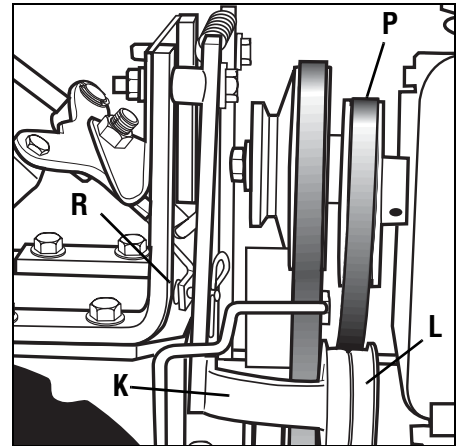

Figure 5-13
2. Stand at the front of the tiller and use your left hand to push the reverse idler arm (K, Figure 5-13) inward as far as possible (the reverse idler pulley [L] is attached to the reverse idler arm).
3. The reverse idler pulley (L, Figure 5-13) regulates the tension that is applied to the reverse drive belt (P). The following adjustment will allow the reverse idler pulley to apply more tension to a loose belt.
5. Slip the reverse belt (P, Figure 5-13) off the engine-driven reverse (upper) pulley.
6. On the **right** side of the unit (as viewed from operator's position), remove the hair-pin cotter from the clevis pin (R, Figure 5-13) that connects the reverse idler arm (K) to the reverse adjustable link. Push inward on the reverse idler arm (K) and remove the clevis pin (R).
8. Reinstall the reverse belt (P, Figure 5-13) on the reverse (upper) pulley, making sure
the belt is located to the inside of the reverse idler pulley (L, Figure 5-13).